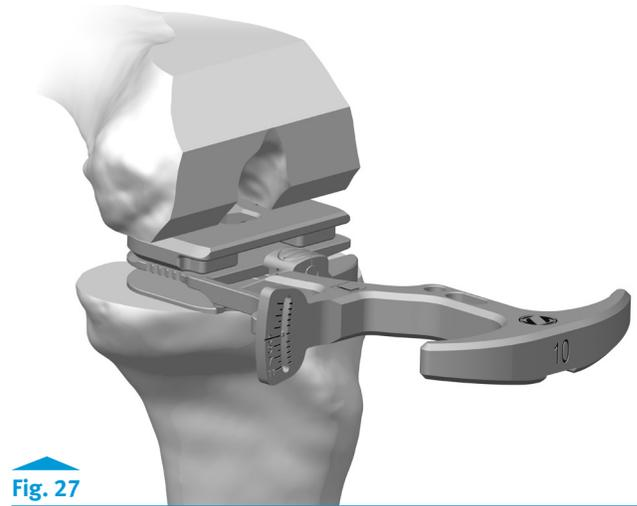

Fig. 27
- The +9mm *Zimmer FuZion* Femoral Paddle can be attached to the *Zimmer FuZion* +0mm Femoral Paddle and used with the *Zimmer FuZion* Spacer Block to check the flexion gap after resection (Fig. 27).